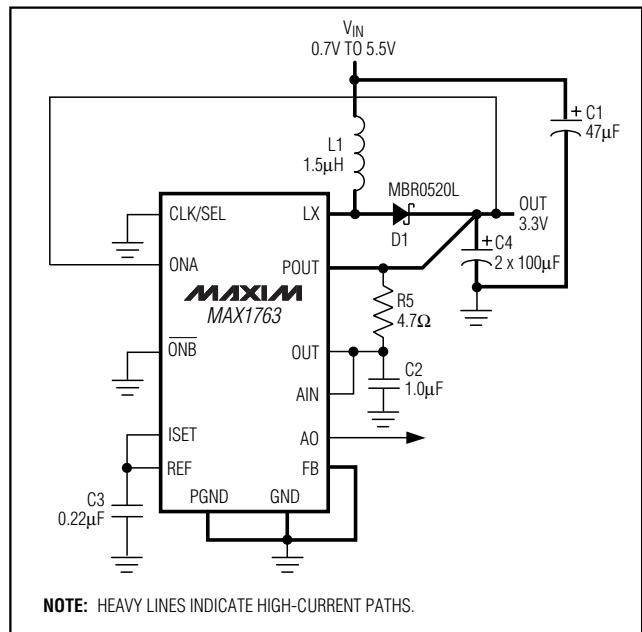

Figure 2. PFM/PWM Automode Connection
**Note 2:** Startup is tested with the circuit of Figure 2.
(Circuit of Figure 2,  $V_{IN} = +3.6V$ ,  $V_{OUT} = +5V$ ,  $T_A = +25^\circ C$ , unless otherwise noted.)
In its normal mode of operation (CLK/SEL = low), the MAX1763 offers fixed-frequency PWM operation through most of its load range. At light loads (less than 25% of full load), the device automatically optimizes efficiency by switching only as needed to supply the load. Shutdown reduces quiescent current to just 1 $\mu$ A. Figure 2 shows the standard application circuit for the MAX1763. (An external Schottky diode is needed for output voltages greater than 4V, or to assist low-voltage startup.)
For output voltages greater than 4V, an external Schottky diode must be connected from LX to POUT, in parallel with the on-chip synchronous rectifier (Figure 2). The diode should be rated for 0.5A. Representative devices are Motorola MBR0520L, Nihon EP05Q03L, or